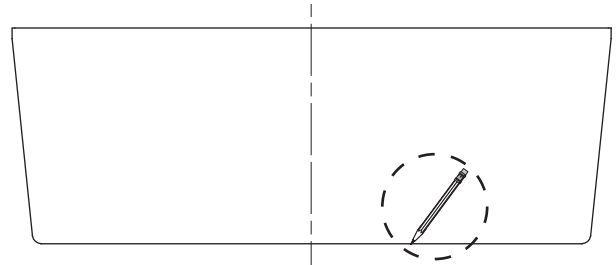

FIG. 1
- ^a Using an erasable pencil or marker, trace the outline of the base of the tub on the floor. (See **Fig. 1**)